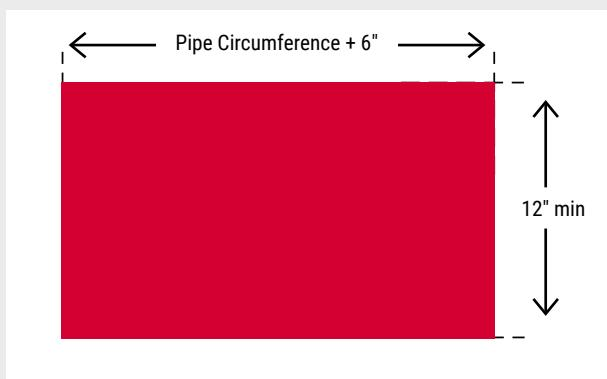

Figure 1:
1. Cut a piece of VaporFlex® Standard that is equal to pipe circumference plus 6" additional wide by minimum 12" in length. (Fig. 1)